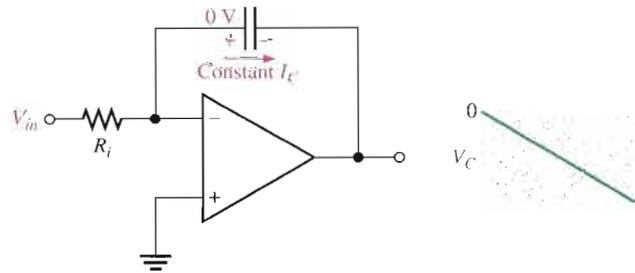

FIGURE 13–33
**The Capacitor Voltage** Since  $I_{in}$  is constant, so is  $I_C$ . The constant  $I_C$  charges the capacitor linearly and produces a linear voltage across  $C$ . The positive side of the capacitor is held at 0 V by the virtual ground of the op-amp. The voltage on the negative side of the capacitor, which is the op-amp output voltage, decreases linearly from zero as the capacitor charges, as shown in Figure 13–33. This voltage is called a *negative ramp* and is the consequence of a constant positive input.